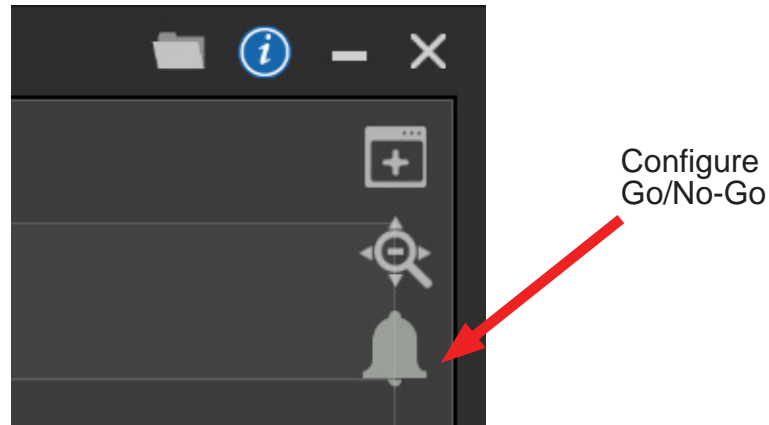

Figure 3.6: Setting the Go/No-Go Thresholds
1. Click **Configure Go/No-Go** (see Figure 3.6).